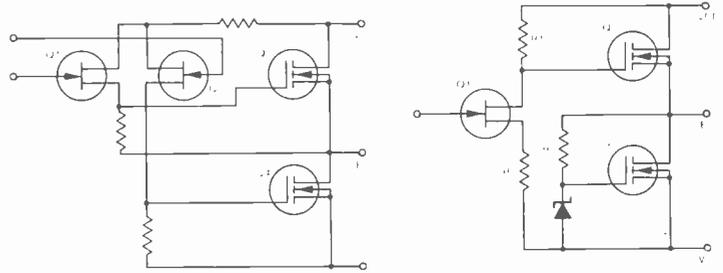
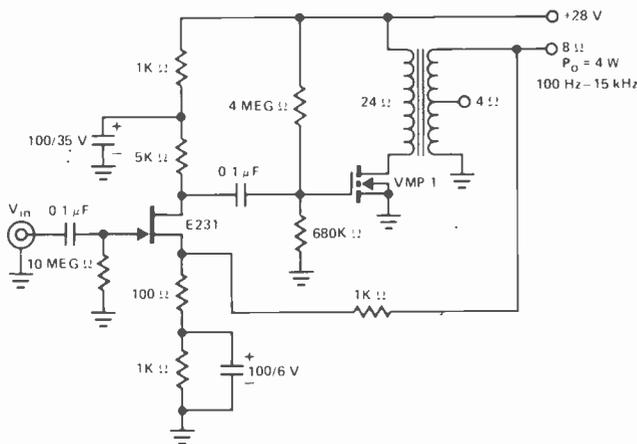
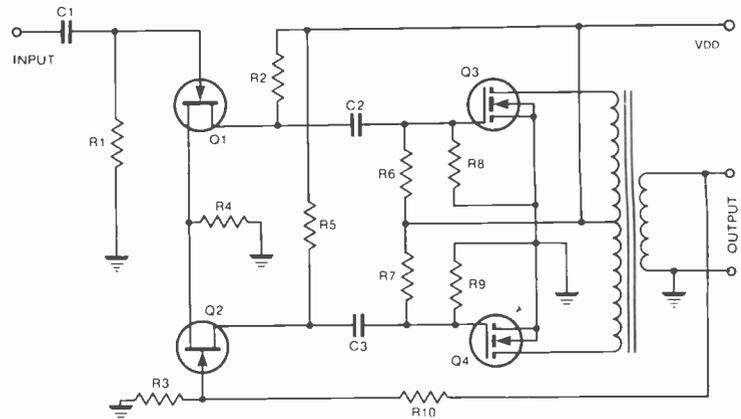

Fig. 1. Series output arrangement and Fig. 2 single-ended output with current source.
Fig. 11. Simple single-ended transformer-coupled audio power amplifier (Siliconix).
Fig. 12. Transformer-coupled output.
In general these devices may use any of the types of output circuits in general use with valves and bi-polars, including transformer coupled (Fig. 12) where the benefits of the absence of charge carrier storage become apparent in the absence of severe ringing at the crossover point, conventional series output such as in Fig. 1 which is a straightforward transformation from a bi-polar circuit (1), and single-ended output with current source, also transposed from an excellent bi-polar circuit (2) (Fig. 2).
A single ended and push-pull transformer coupled amplifier for audio applications are shown in Figs. 11 and 12. Both designs utilise the biasing system described in Fig. 4. A load-line drawn on the output characteristic will show the optimum load to be 24 ohms. In Fig. 11 gate drive is supplied by a single junction FET, and voltage feedback is taken from the output transformer secondary and series fed to the source of the input device. Distortion is under 2 per cent at full output (try to get *that* with a single ended valve or bi-polar) and could probably be reduced even further by adopting a source follower output stage.
A push-pull version of Fig. 11 is shown in Fig. 12 using a differential input to provide phase splitting, drive, and a feedback point. Although the transformer winding ratio implies the use of a low impedance loudspeaker, a step-up ratio could be used for direct coupling to an electrostatic speaker, a balanced transmission line (both with some modification of the feedback circuit) an unbalanced transmission line, or a 70 volt speaker distribution line.